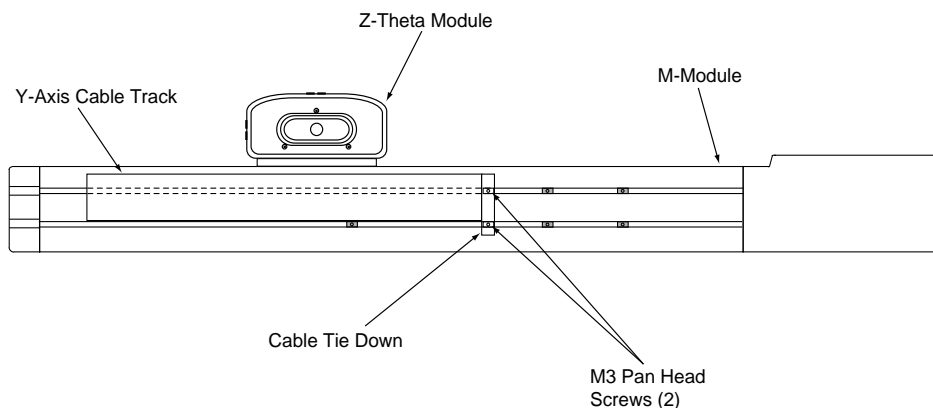

Figure 6-10. Y-axis Cable Track Screw Removal
3. Fold the Y-axis cable track over and attach it to the rear of the Z-Theta unit with two M6 pan head screws (see Figure 6-10).
1. Locate and remove the two pan head screws from the Y-axis cable track. These are attached to the cable tie down (see Figure 6-10).